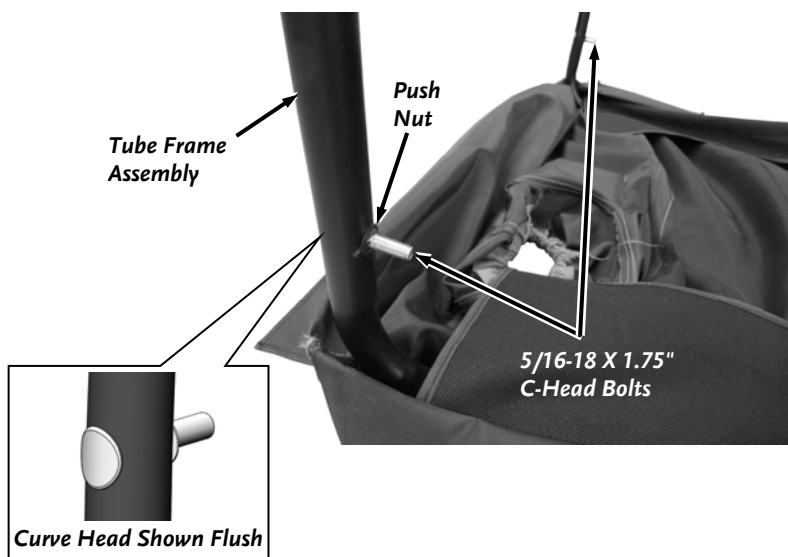

Figure 28
1. Locate the 2 front holes in the Tube Frame Assembly near the bends (**Figure 28**).
2. Insert a 5/16-18 x 1.75" C-Head Bolt into each hole. Take care to position them as shown in Figure 28 so the bolts are pointing in the correct direction and the curved heads are flush with the Tube Frame.